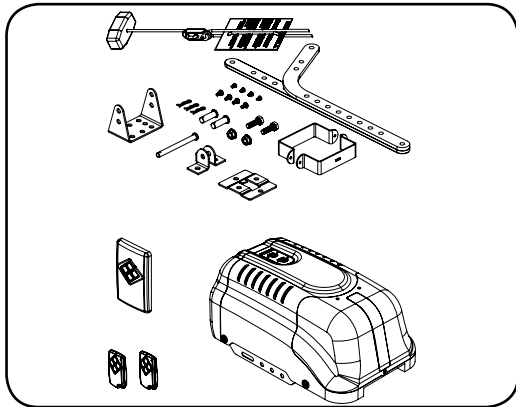

Fig 01
- 1 x SecuraLift® Rhino drive unit (Fig. 01)
- 1 x Transmitter pack (Fig. 01)
- 2 x Door attachment arms (Fig. 01)
- 1 x Accessory and hardware pack (Fig. 01)
- 1 x Manual Disengagement Cord (Fig. 01)